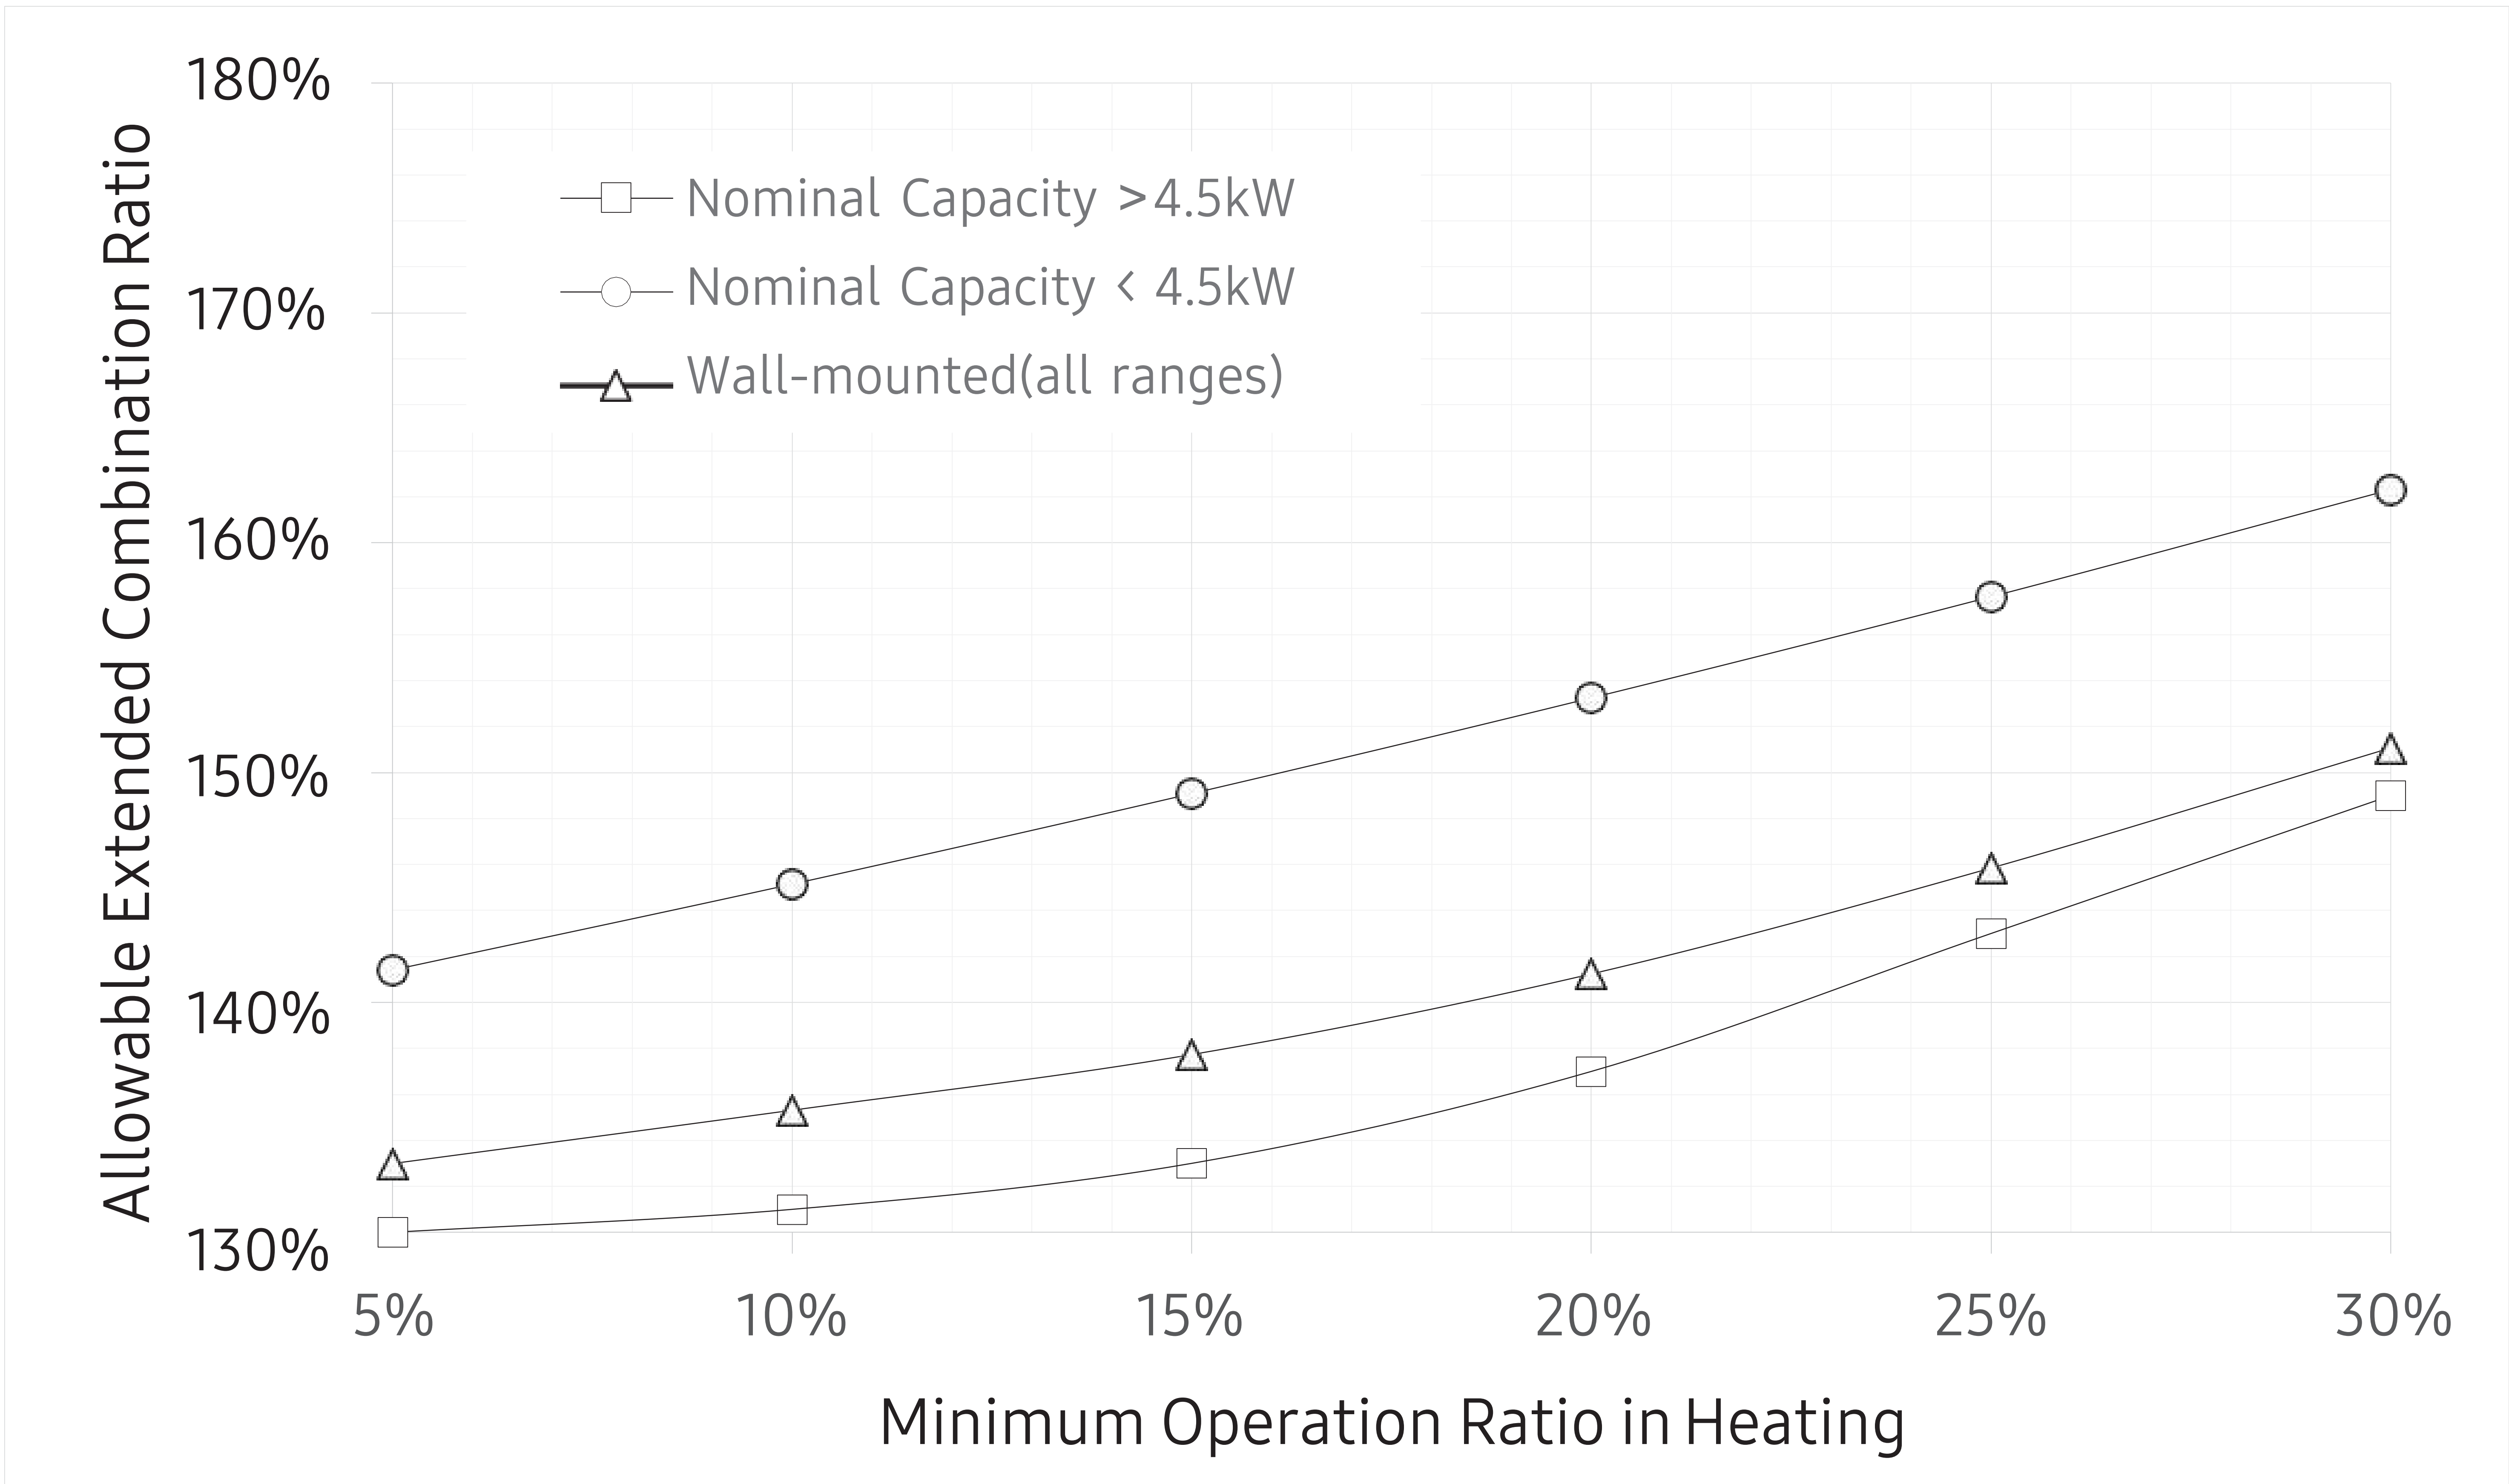

Fig. 2 Allowable CR with respect to indoor unit type as operation ratio increases
The Minimum Operation Ratio should be determined during the project design stage using Fig. 2.
- Samsung is not responsible for any issue, including abnormal noise that arises during heating operation due solely to the operation rate being lower than the designated combination ratio shown in Fig. 2. Please contact your local Samsung representative for further details if the project requires you to design the project with a connection ratio greater than130%.